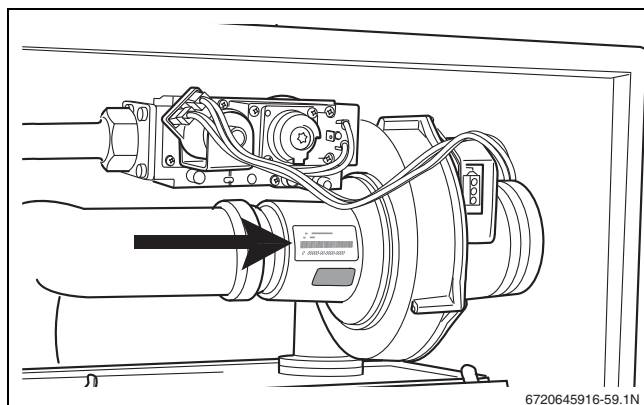

Fig. 63 Checking the gas classification label
- Check that the actual gas supply is in accordance with the type of gas supply specified on the gas classification label (→ fig. 63).